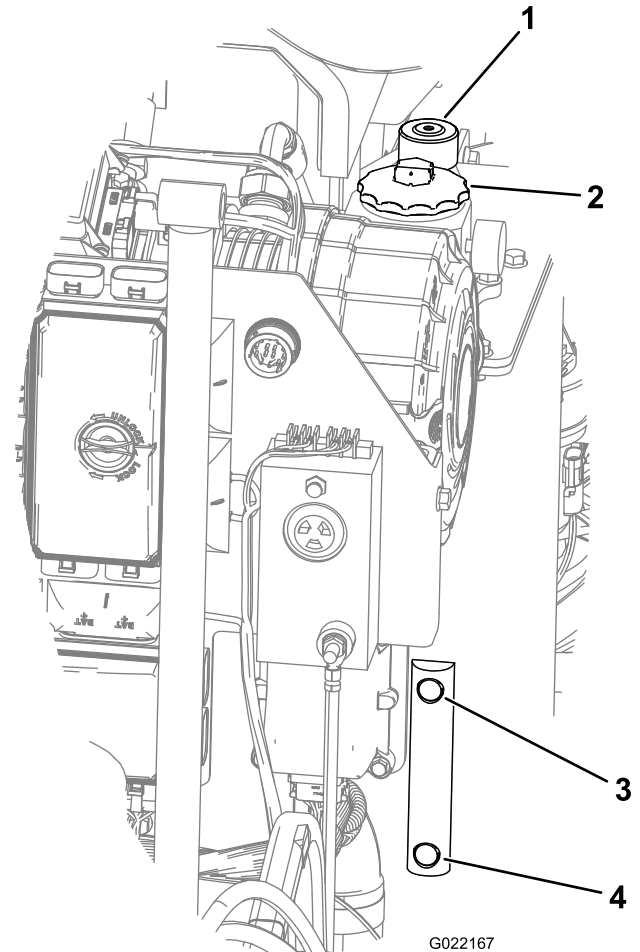

Figure 144
3. Look at the sight gauge on the hydraulic tank and check the level of the oil (Figure 144).
4. If the level is low, open the hydraulic-tank cap, and add the appropriate fluid until it reaches Full on the sight gauge (Figure 144).